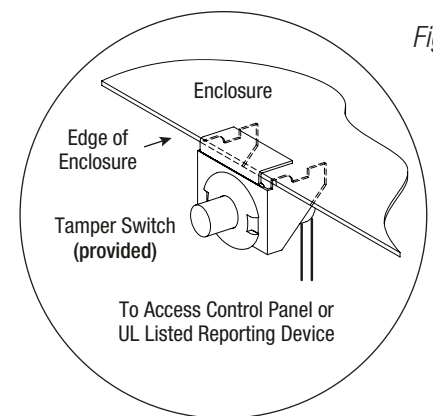

Fig. 1
3. Mount included UL Listed tamper switch (Altronix Model TS112 or equivalent) in desired location, opposite hinge. Slide the tamper switch bracket onto the edge of the enclosure approximately 2" from the right side (*Fig. 1, pg. 2*). Connect tamper switch wiring to the Access Control Panel input or the appropriate UL Listed reporting device. To activate alarm signal open the door of the enclosure.
5. Refer to the *eFlow Power Supply/Charger Installation Guide* for eFlow6NB and corresponding *Sub-Assembly Installation Guides* for the following models: ACM8(CB), ACM4(CB) and T1618300K for further installation instructions.